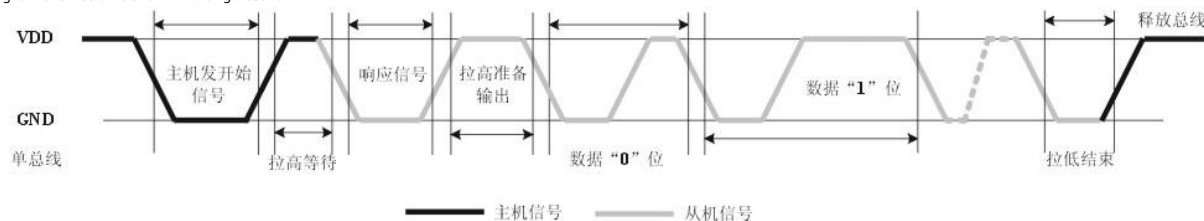

Figure 3 Data timing diagram
**Note:**To ensure accurate communication of the sensor, the user should strictly follow the parameters and timing in Table 4 and Figure 3 when reading the signal.